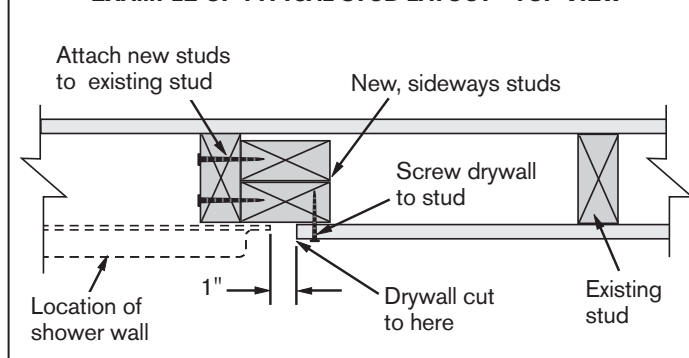

Figure 3
- 2 Install studs to provide support for flange and drywall attachment. (Figure 3)